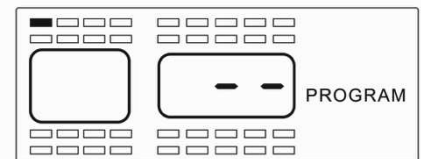

Figure 2-4
- 4) Select the desired tire position using the arrow buttons. Hold down the “S” button until the first of the three dashes begins to blink (See Figure 2-4).